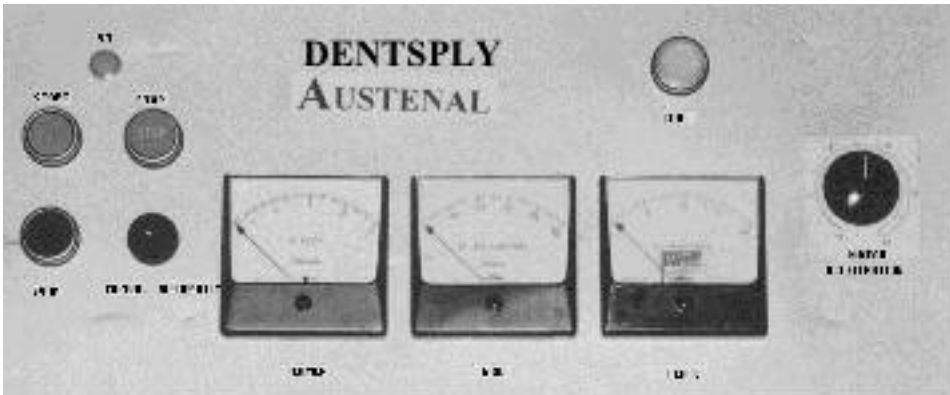

FIG. 9
- b. Filament voltage should read between 12.3 and 12.9 VAC (Fig 9). If lower than this range, place wire 6 at the transformer, to "L". If higher than this range, place wire 6, to "H".
- G. Grid Coil Adjustments (Fig 9)